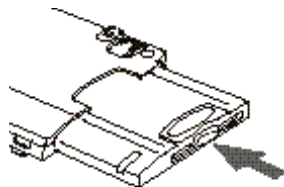

Figure 5-10 Installing a Device in the Detachable Bay
3. Slide the device into the Multi-function Bay until it clicks into place. (See Figure 5-10.)